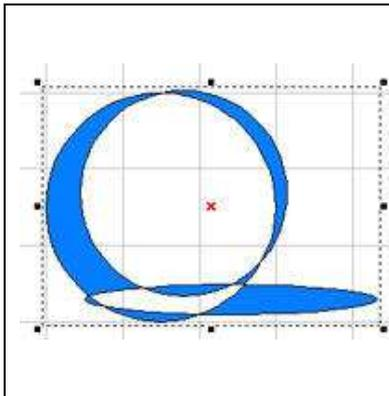
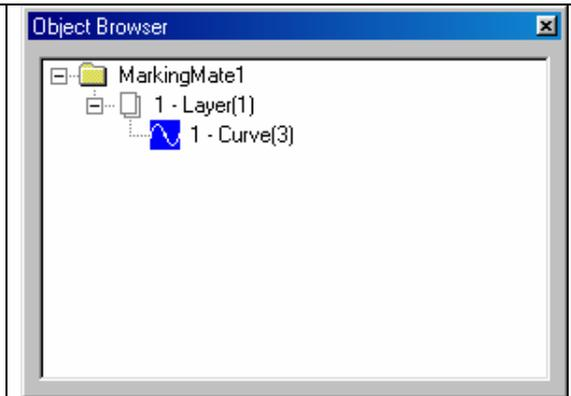

Figure 3
Figure 4
Step 3: Select the object you want to edit, click “Edit – Combine” from Menu Bar. This will make the overlapping part become a hollow (as Figure 3 below), and then you can see the object in Object Browser has become a curve (as Figure 4 below).
Step 3: Select the objects you want to edit, click “Edit – Group” from Menu Bar, or click the  button from toolbar. The selected objects have become a group. Use ctrl key and select the individual object still be able to edit objects by individual (as Figure 3 below). At this time, you can see the object type in Object Browser has become a group object; however, each individual object is still visible in Object Browser (as Figure 4 below).
Step 4: Click “Edit – Sort” from Menu Bar or click the  button from the toolbar, the object path will be rearranged to be a close-loop object (as Figure 3 below).
Step 5: Select the object and go to the “Fill” page of the Property Table, choose the color you want and press “Apply” button, the object will be filled in the color you chose (as Figure 4 below).